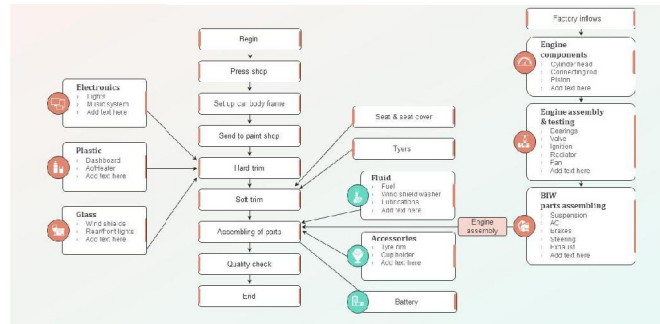

Figure 4.0: Process flow
5. Sequence Planning: Logical part assembly/machining/welding order, including subassemblies and torque sequence.( Figure 4.0)